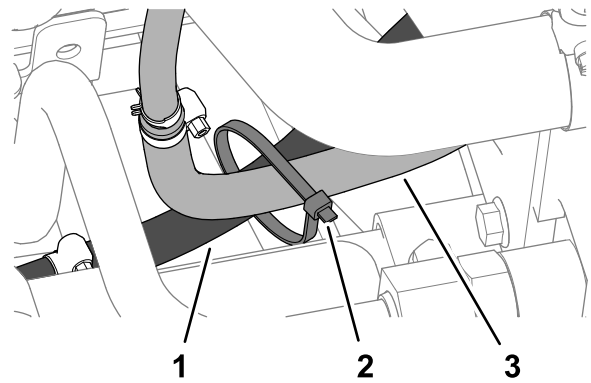

Figure 19
4. Secure the 2 fuel-cooler hoses together with a cable tie (Figure 19).